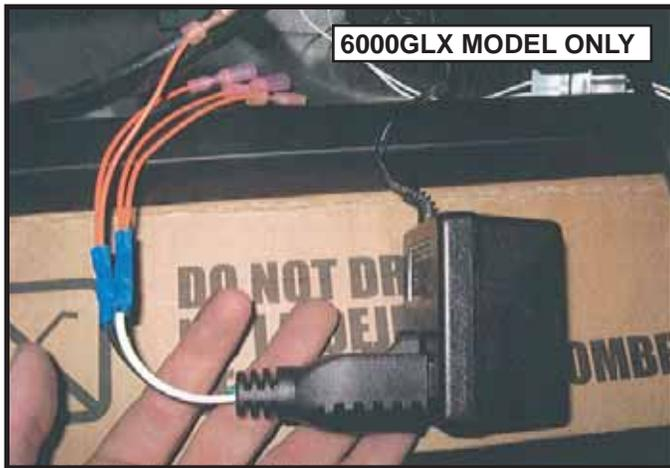

Figure 11.
14. Connect the female connector to the Flame-Out -Of-Log transformer as shown in Figure 11.